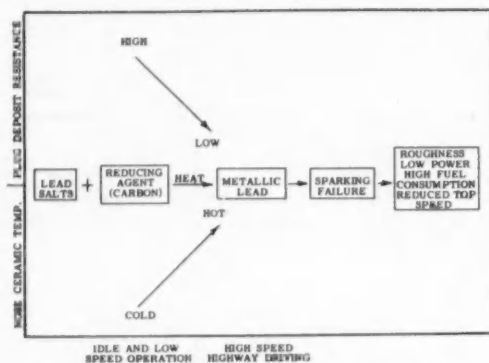

Fig. 1—Postulated mechanism of automotive spark plug fouling—metallic lead theory
The mechanism by which metallic lead is formed on spark plugs, subsequently causing misfire, is postulated to be as shown diagrammatically in Fig. 1. It involves: (1) deposition of lead salts on the plug ceramic due to incomplete scavenging; (2) mixing of carbonaceous material with the lead salts during periods of idle or rich mixture, or extended operation at such lean mixtures that incomplete combustion occurs; (3) heating the resultant mixture by increased output operation, with the result that a certain proportion of the deposit is reduced to metallic lead; and (4) misfiring of the spark plug due to the possibly discontinuous, but excellent electrical conducting, path offered by the metallic lead particles.